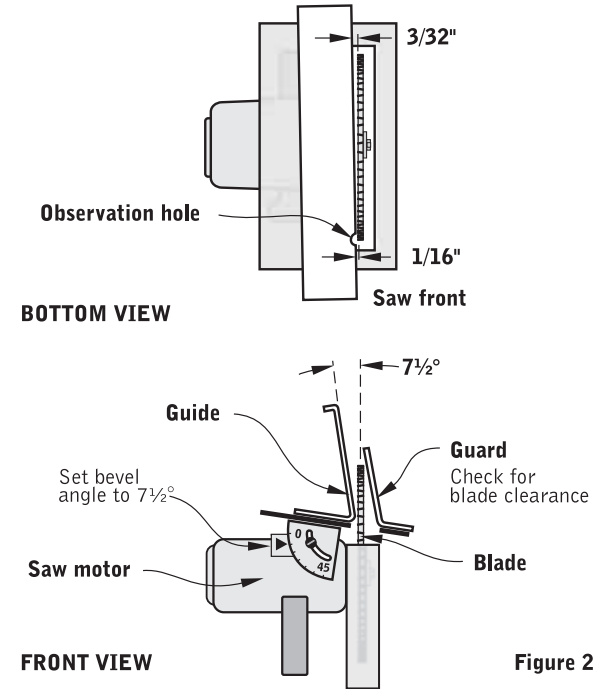

Figure 2
2. Adjust the saw for its deepest cut and set the bevel angle to 7 1/2° (See Figure 2—FRONT VIEW). (This bevel angle produces an 8-to-1 ratio scarf.)
4. Position the Scarffer guide on the base plate to mark the proper location of the mounting holes. Place the wider flange of the guide on the base plate, with the center of the observation hole lined up front tip of the saw blade (See Figure 2). Position the guide 1/16" away from the front saw blade tip (at the observation hole). Position the guide 3/32" away from the rear saw blade tip (See Figure 2). The slightly increased clearance at the rear of the blade assures that the trailing edge of the blade will not damage the smooth cut made by the leading edge of the blade. Temporarily clamp the guide to the base when it is in the proper position.
1. Position the Scarffer guard on the opposite side of the saw blade from the guide. Place the smaller flange of the guard on the saw base so the guard is parallel to the guide and far enough away to clear the tip of the blade by at least 1/8" (See Figure 2).